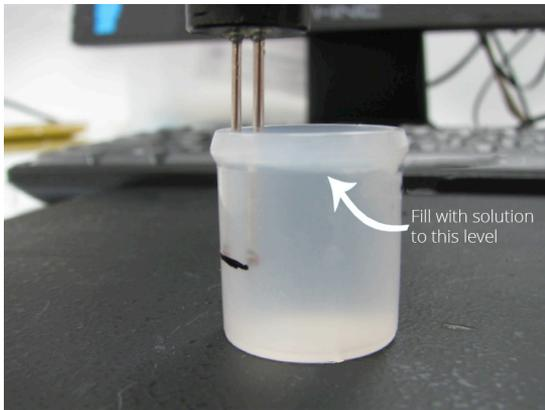

Fig. 33 — The vial should be filled to a volume of 5mL.
2. Fill (6) 5mL vials (WPI #14176). Dispense 5mL of each concentration into each of the six vials. It might be useful to label each of the vials with the concentration to avoid confusing them when performing the test (Fig. 33).